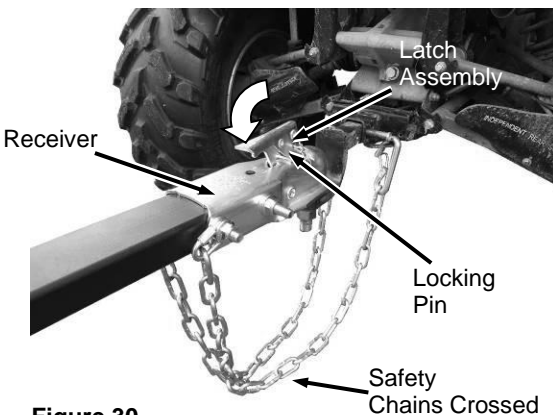

Figure 30
2. Close the Latch Assembly on the Tow Hitch Assembly to lock it onto the Tow Ball (**Figure 30**). Attach the towing Safety Chains to the tow vehicle ensuring there is enough slack for turning.
**Note:** When attaching the Safety Chains, attach the left chain to the right anchor and the right chain to the left anchor so that that the Safety Chains cross each other under the Ball Hitch (**Figure 30**).